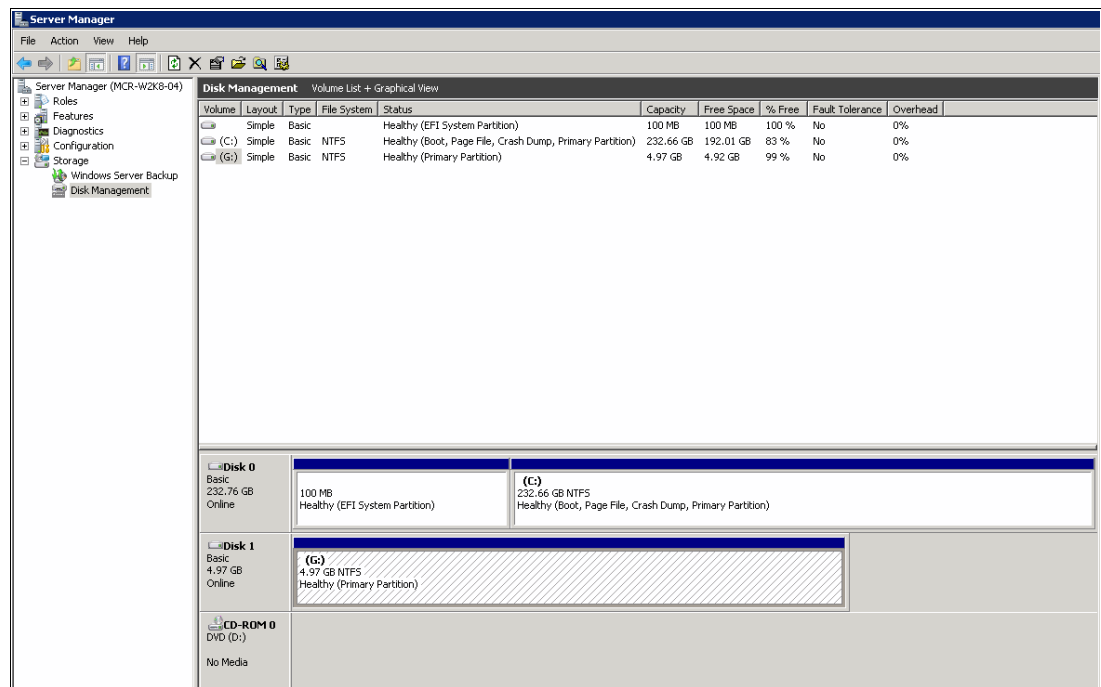

Figure 5-57 Disk is ready to use
- Set the disk online, initialize it, and then create a file system on it as described in step 6 - 10 of 5.3.1, “Windows 2008 Fibre Channel volume attachment” on page 186. The disk is now ready to use, as shown in Figure 5-57. In our example, we mapped a 5 GB disk to a Windows 2008 host that uses iSCSI connectivity.